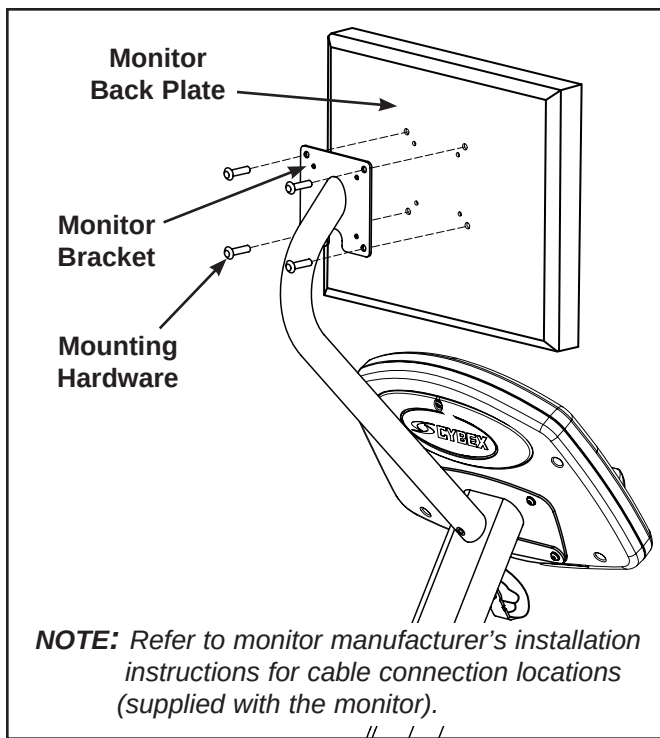

Figure 13
- A. Secure monitor on the monitor bracket using the hardware supplied with the monitor. See Figure 13. **NOTE:** For monitors with center connectors, remove the back plate from the monitor and secure back to the mounting bracket.